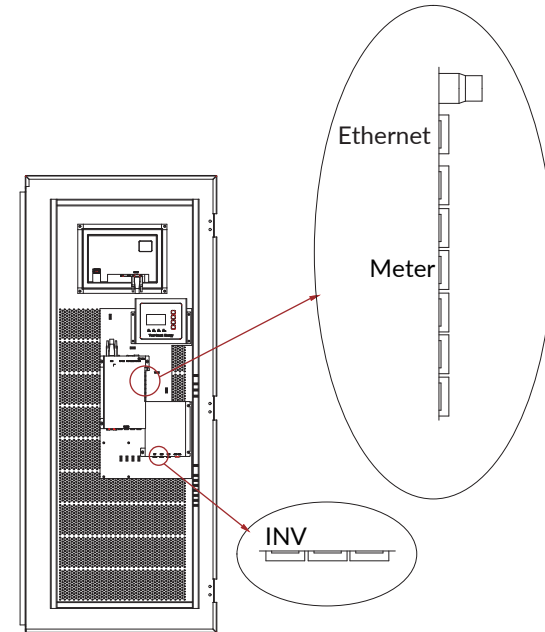

Figure 4-11 Connection LAN and Meter communication cables
The communication connection is as shown in Figure 4-11.
c.If you need dispatching functionality, you can connect the dispatching module in your own location as shown in Figure 4-11. Line sequence 3B6A of dispatching communication RJ45.